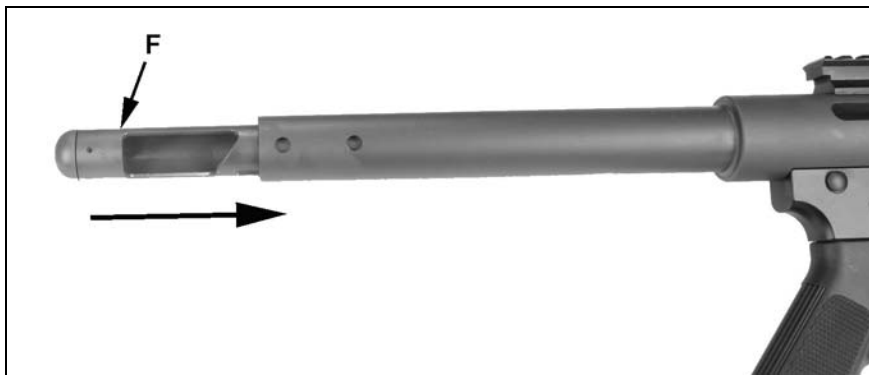

Figure 32
2. Insert bolt body (F) into lower receiver. See figure 32.